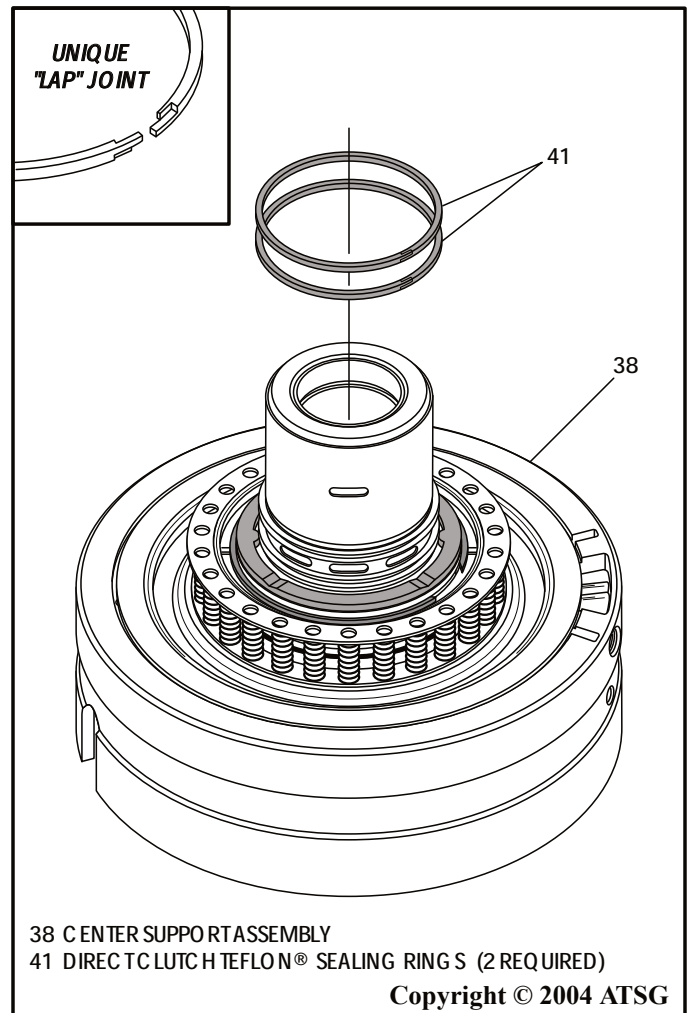

Figure 114
11. Install new direct clutch sealing rings into the grooves in the center support (See Figure 114).
12. Notice that the rings have a "unique" lap joint, as shown in Figure 114, and will require some **special** attention, to ensure that they engage properly.